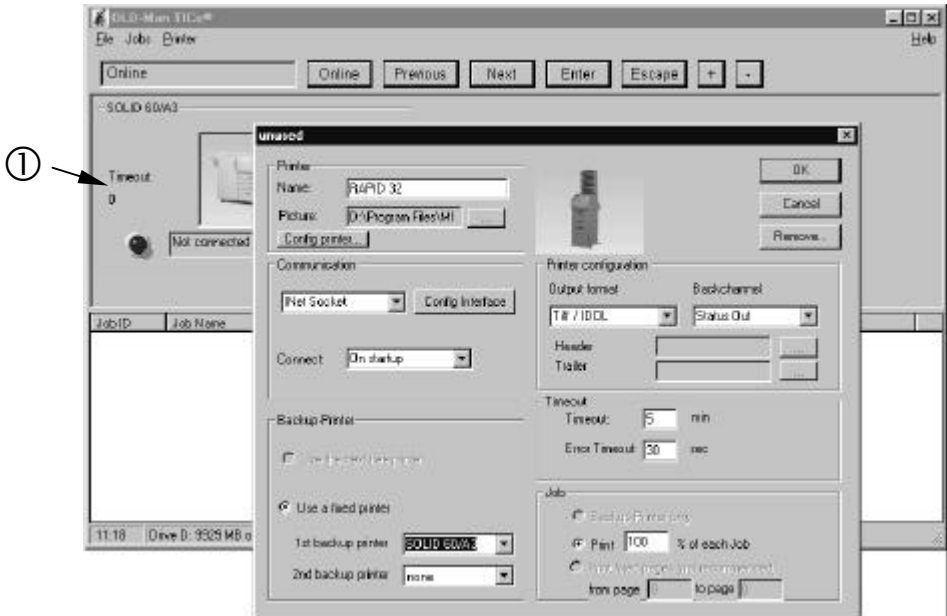

Fig. 4.3.f Additional printer configuration
In the **control window for the connected printers** (see ① in fig. 4.3.f) the first printer is already shown now (half-concealed by the printer configuration window in fig. 4.3.f).
In the **group** ²**Job**² (fig. 4.3.f right/below) you can determine if the printer has to work only as backup printer. If a printjob is distributed on several printers, you can decide by activating the input field **Print ... % of each Job** for each printer, the printjob share (in %) this device has to take. These functions are only available in connection with the clustering module of OLD - Man TICo[®]. In the bottom input fields of the group "Job" you can determine which printer prints which pages of the printjob.
In the **group** ²**Backup Printer**² (fig. 4.3.f left/below) you can determine the other printer that has to operate as backup printer for the first one.
In the **group** ²**Timeout**² (fig. 4.3.f center/right) you can determine the time OLD - Man TICo[®] will wait in case of occurring communication problems until it will not employ the corresponding printer anymore.